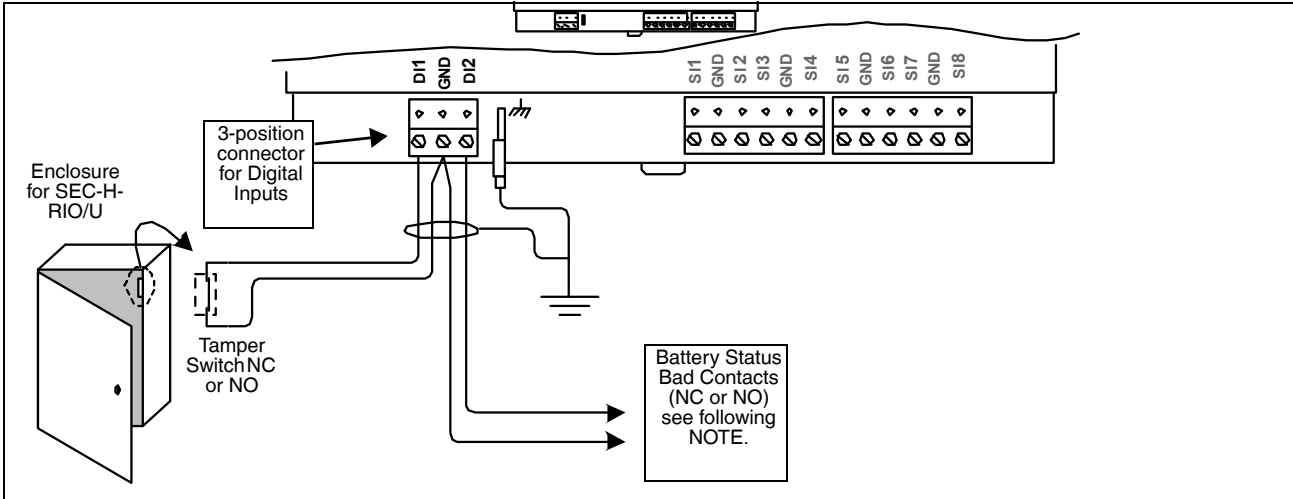

Fig. 7. Digital input wiring example to SEC-H-RIO/U module.
The SEC-H-RIO/U has two (2) digital inputs, located on a 3-position connector next to the earth grounding lug (see Fig. 7). Under the connector, terminals are labeled DI1, GND, DI2. This means when wiring, as many as *two* conductors can be landed to the common GND terminal.
Each digital input can monitor dry contacts, either normally-open (N.O.) or normally-closed (N.C.). Both inputs are *unsupervised*—no end-of-line resistors are required. Fig. 7 shows example wiring to digital inputs.
4. Digital input DI1 of at least one item (Security Controller, expansion module) in any enclosure must be wired to the enclosure's door tamper switch. See Fig. 7, page 12. If multiple WEBS-AX® Security Enclosures are used in the system, each door tamper switch must also be wired to DI1 of *one* of its contained expansion modules.